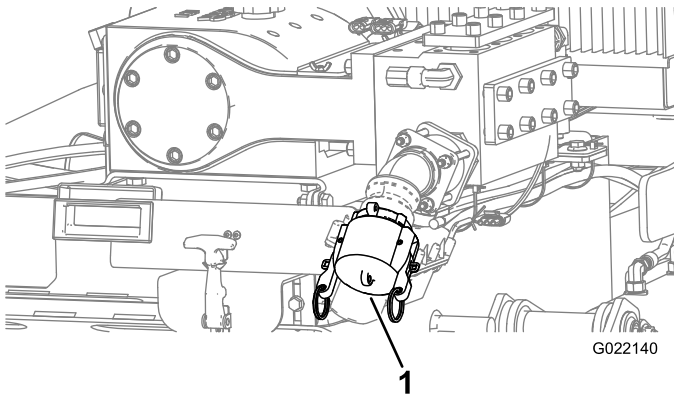

Figure 152
- C. Ensure that the cap is installed on the drilling-fluid pump inlet (Figure 152).